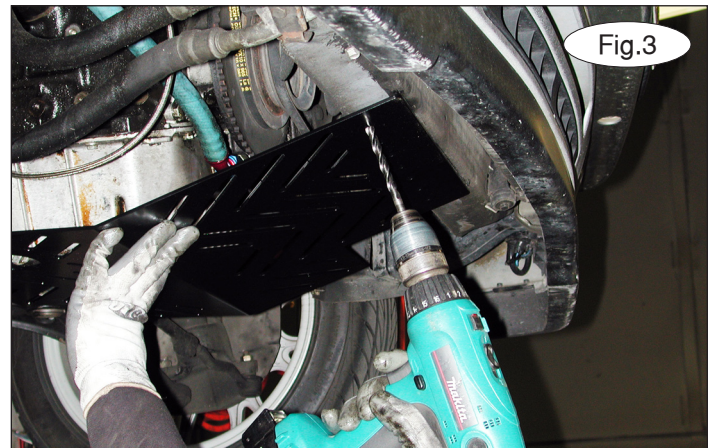

Fig.3
4. Using the pre-drilled holes in the skid plate as templates, drill seven 5/16" holes into the radiator core support (Fig.3). *Note:* before drilling, make certain you will not drill through any engine components on the other side.